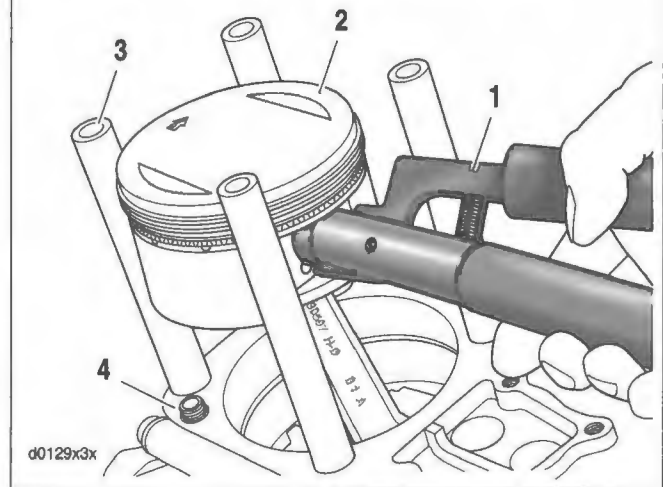

Figure 3-26. Piston Pin Circlip Removal (Part No. HD-42317-A)
5. See Figure 3-26. Remove O-ring from ring dowel (4) on base of cylinder deck. Discard O-ring.
2. See Figure 3-26. Remove the piston pin circlip.
- a. Insert the PISTON PIN CIRCLIP REMOVER/INSTALLER (1) (Part No. HD-42317-A) into the piston pin bore. Position claw on tool in slot of piston (2) (directly under circlip).